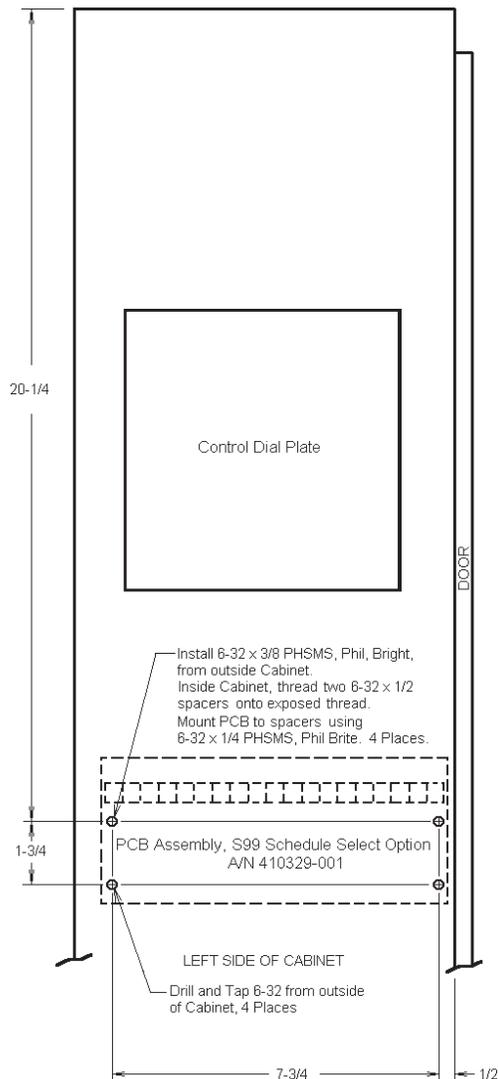

Figure C3. Mounting detail for “L”, “H”, “G”, or “U” Cabinet with RS232
3. Remove the four (4) screws mounting the Terminal Strip Input Board (A/N 410329) to the Cabinet. Rotate the Board 180° (so the terminal strip is at the top), plug J4A-J4A-J4A-J4A harness into its jack and route the harness **under** the PCB and re-mount the Board using the same four (4) screws.
4. Drill and tap the left side of the cabinet per Figure C3, be sure to vacuum or otherwise remove **ALL** metal chips before installing four (4) 6-32 x 3/8 PHSMS, Phil., Brite from outside the cabinet. On the inside of the cabinet, mount two (2) 6-32 x 1/2 spacers (P/N 555031) on each exposed thread (4 places) to offset PCB 1" from cabinet wall.
5. Mount S99 Option PCB (A/N 410329-001) to spacers using four (4) 6-32 x 1/4 PHSMS, Phil., Brite (see Figure C3).